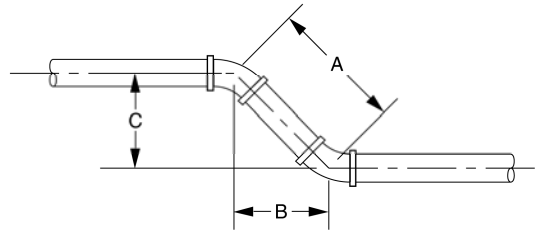

Figure 3-4. Simple offset.
- 9. Figure 3-4 shows a simple offset having two parallel pipes and two fittings of the same angle in the same plane. Name the three designated terms used to describe the various parts of the offset.